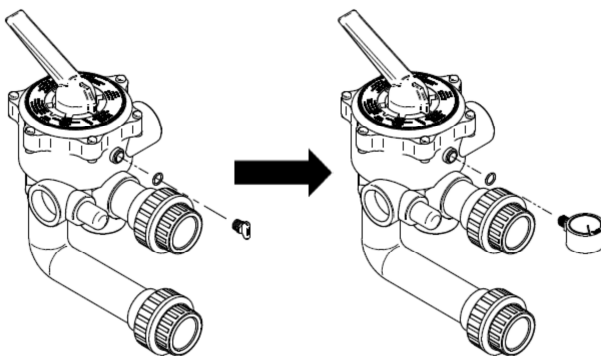

Fig. 19
5. Take off the multifunction *multifunctional* valve cap, apply some supplied teflon around the manometer thread and then screw the manometer with a key using no strength on the plastic box (Fig. 19).